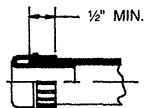

FIG 4
3. TAP THE FERRULE ONTO THE END OF THE CONDUIT/TUBING. CONDUIT SHOULD ENGAGE FERRULE FINGERS  $\frac{1}{2}$ " MIN. (SEE FIG 4).